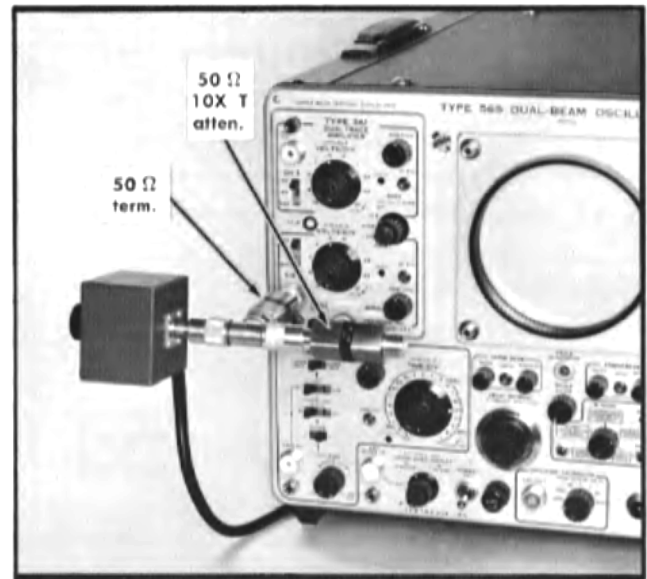

Fig. 5-7. Establishing triggering test signal amplitude.
2. Connect the constant amplitude signal generator to upper beam vertical INPUT as shown in Fig. 5-7.
9. Return the signal connection to upper beam vertical INPUT as shown in Fig. 5-7.